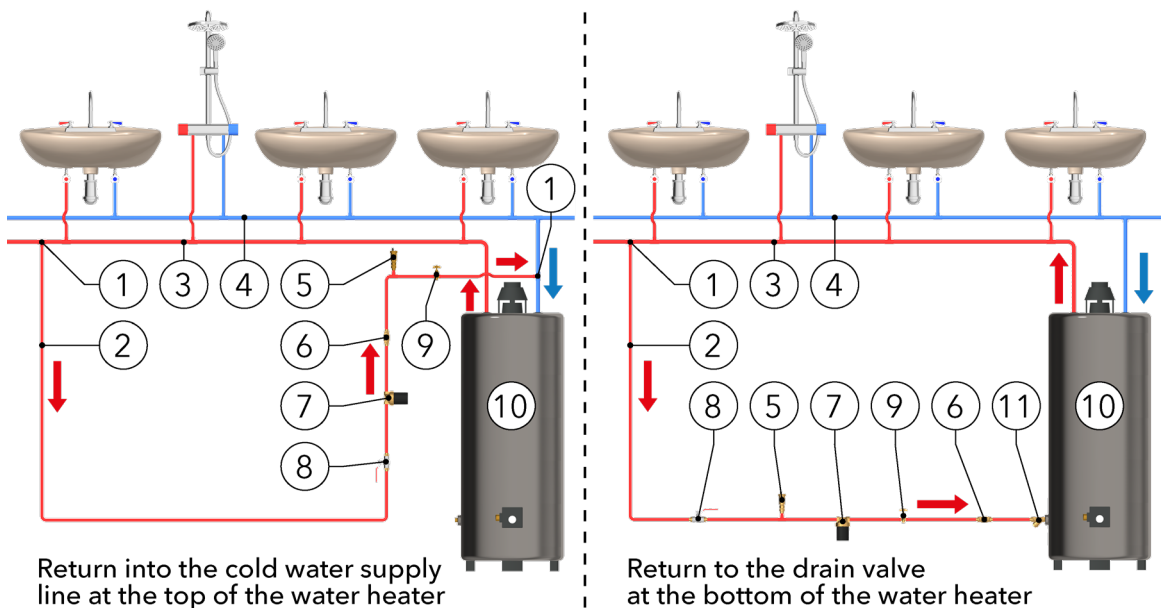
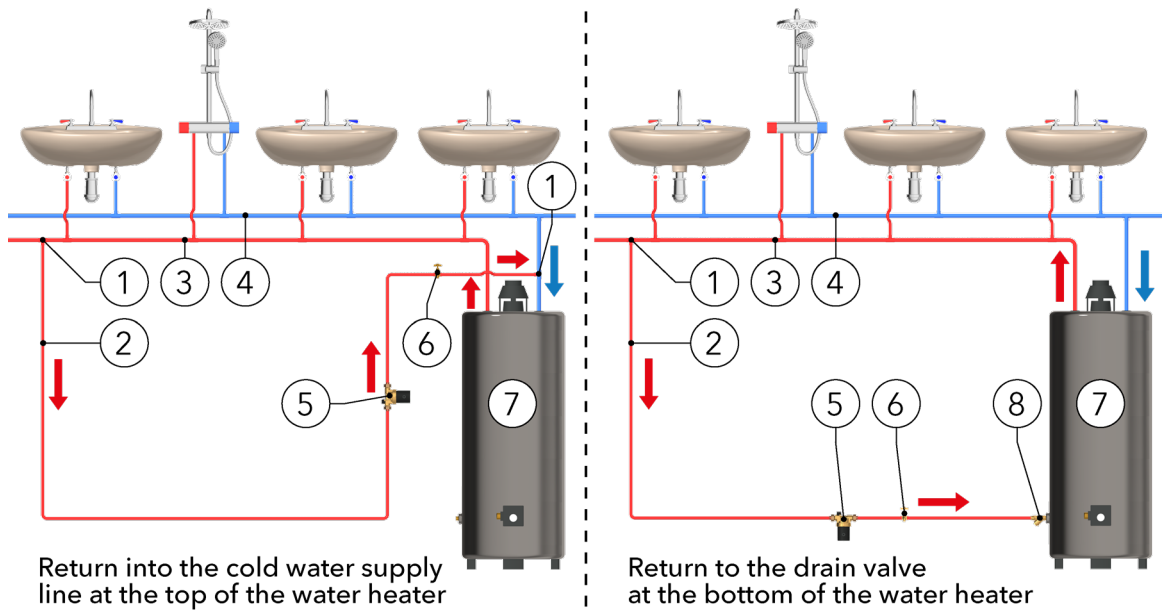

Figure 5
Figure 6
- Decide on the course of the recirculation pipe (also determining the length of the pipe required) and whether the return line should be connected to the water heater cold water inlet line (tee fitting required) or to the bottom water heater drain valve ("Y" type fitting required to fit to existing drain valve outlet). See **Figure 5** and **Figure 6** on page **19** and **20** for the installation schematic.
The next examples in **Figure 5** and **Figure 6** show typical installation arrangements for different return line connection layout, but for single line returns only. For multiple branched supply line installations, a recirculation line should be installed for each branch.